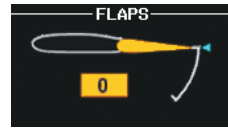

Figure 3-28 Flaps Failed
- Flaps have failed or become jammed – Flap pointer and readout turn yellow with black text (Figure 3-28)